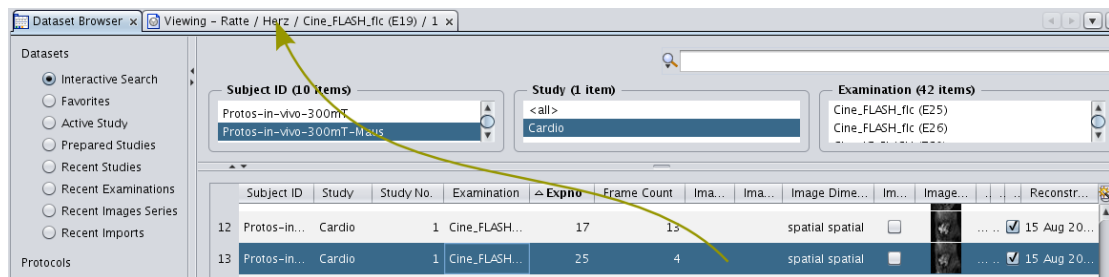

Figure 1.107: Drag and Drop an Image Series to a Viewing Card
2. Drag and drop the image series onto the tab of the existing Viewing Card (see Figure 1.107  132).